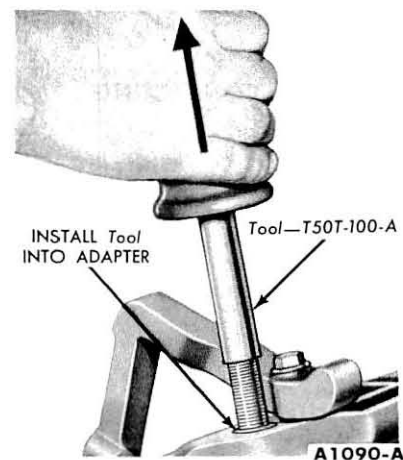

FIG. 22—Sending Unit Adapter Removal
2. Tighten the locknut against the adapter (Fig. 22).